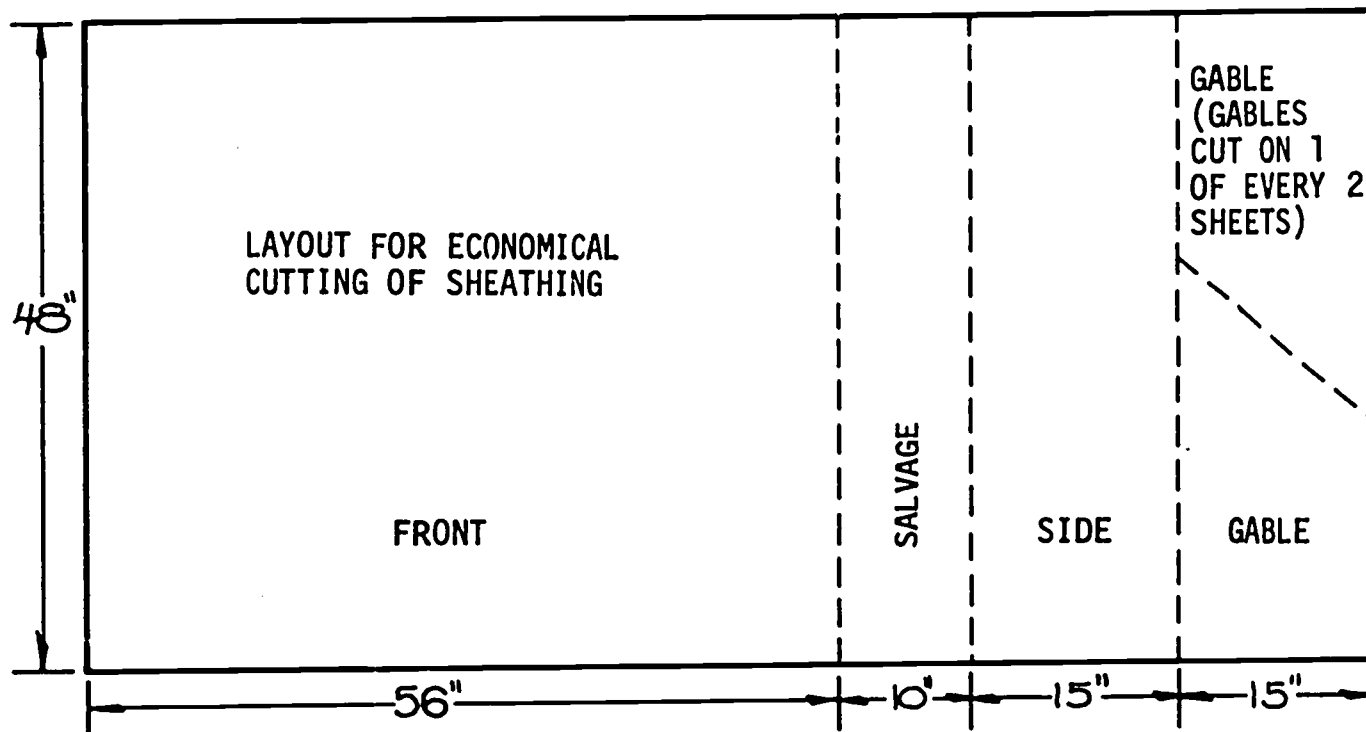

Fig. 106-1. Sheathing layout
- 1 pc.  $\frac{1}{2}$ " x 48" x 56" sheathing material (precut). See Fig. 106-1.
- 2 pcs.  $\frac{1}{2}$ " x 15" x 48" sheathing material (precut). See Fig. 106-1.